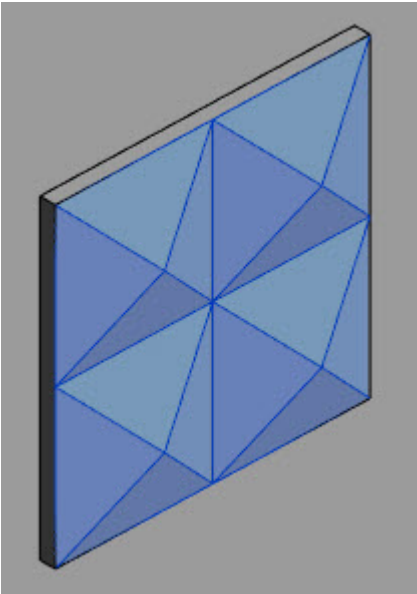

Figure 7.12 Completed creation into solid forms
34. Once the previous step has been completed for the entire wall, click the green checkmark to finish the mass as shown in Figure 7.12